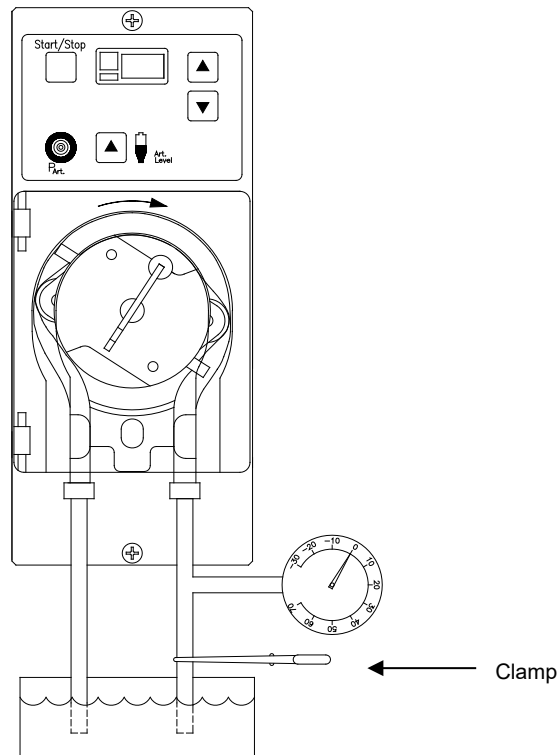

Figure 9. Blood Pump Rotor Occlusion Test
- Connect a pressure gauge to the bloodline in the pump (See Figure 9) and allow the rotor to pull up $37^{\circ}\text{C} \pm 1.5^{\circ}\text{C}$ water. Let this fluid flow past the pressure gauge long enough to clear out air.
- With the pump running at 600ml/min, clamp the outlet so that the pressure gauge is between the output of the pump and the clamp (See Figure 9). The peak pressure on the gauge must be between 25 and 35psi. If the peak pressure is out of range, replace the blood pump rotor springs (part number 650174).